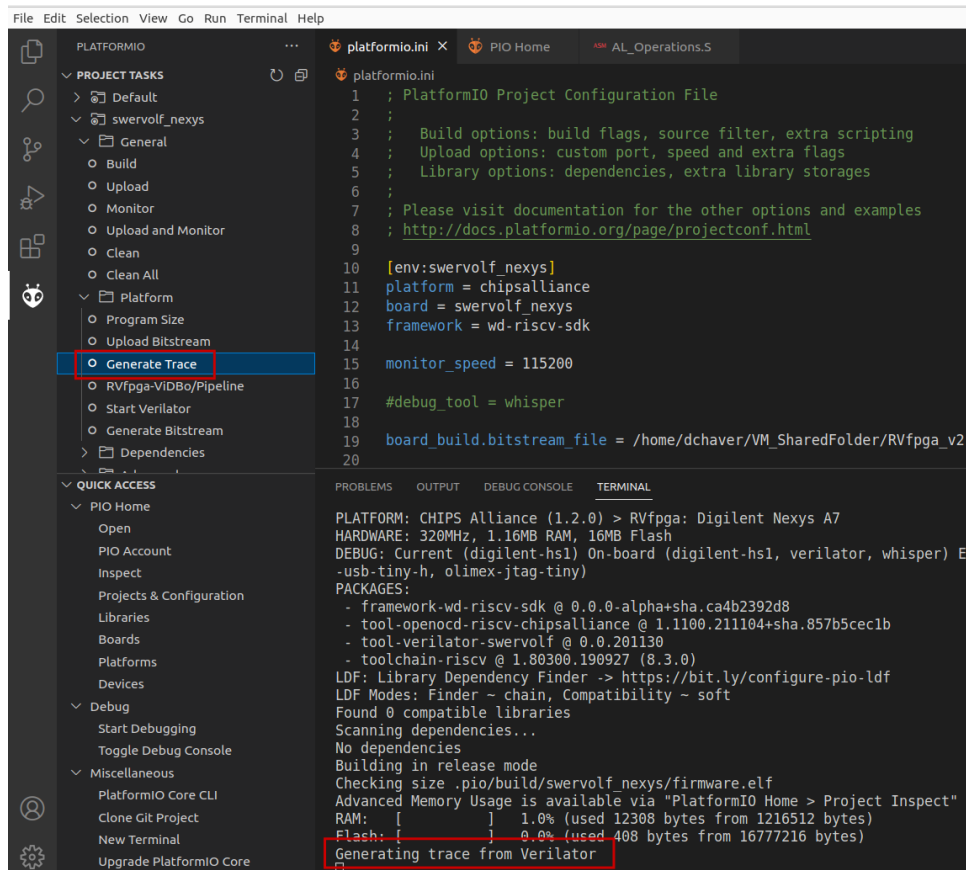

Figure 112. Generating Trace from Verilator
- c. Then expand *PROJECT TASKS > env:swervolf_nexys > Platform* and click on **Generate Trace** (see Figure 112). This first compiles the program and then launches the Verilator simulation of the RVfpga SoC running this program.